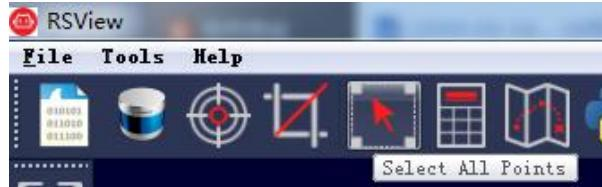

图 C-13 RSView Select All Points 工具
8. Click the **Select All Points** tool, which turns your mouse into a data point selection tool (Figure C-13).